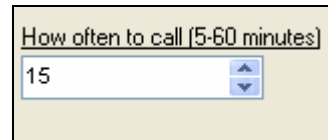

Figure 13.0.10
- The last step in the process is selecting a rain polling cycle. In the “**How often to call (5-60 minutes)**” box choose a time cycle that you want this task to be performed at. This will determine how many times the task will start every hour between the start polling time and the stop polling time (Figure 13.0.10).